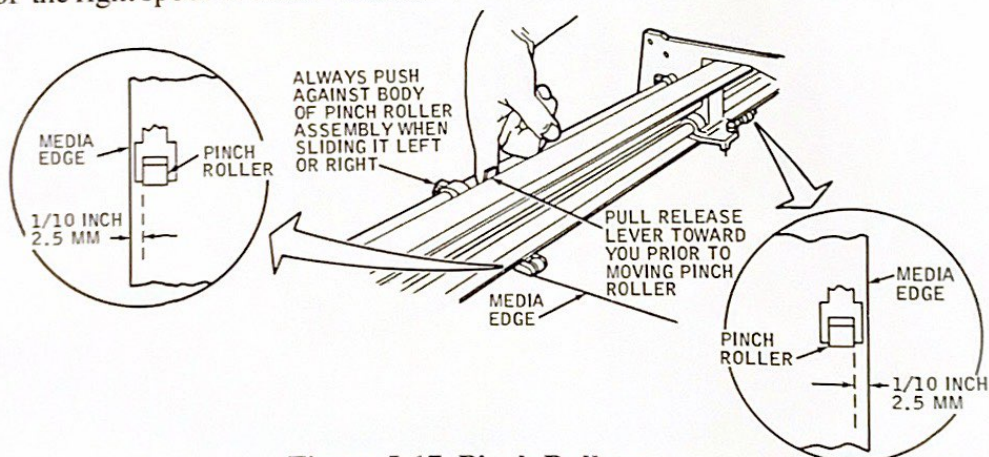

Figure 5-17. Pinch Rollers
7. Position the left and right pinch rollers to $1/10$ of an inch (2.5 mm) from the edges of the media. Move the pinch roller by its "body" rather than by its lever. (Refer to Figure 5-17.)